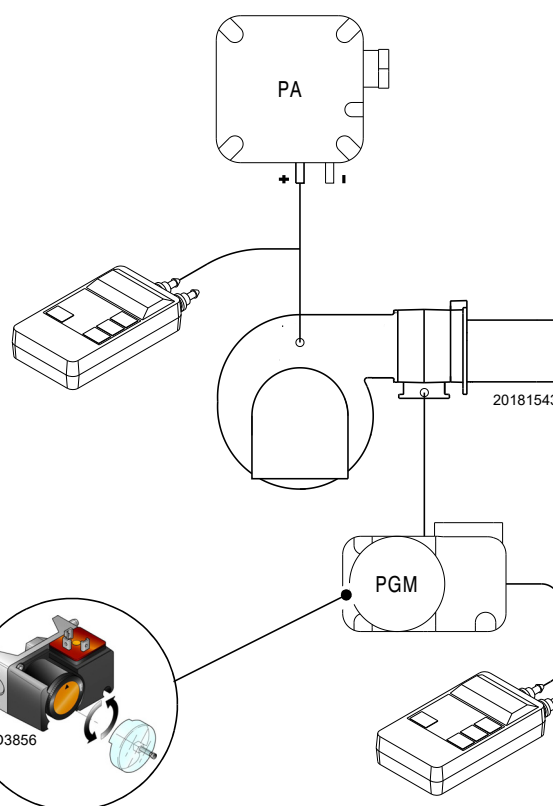

Fig. 32
- Adjust the maximum gas pressure switch (Fig. 32 at page 33) to the end of the scale.
Adjust the maximum gas pressure switch (Fig. 32) after making all other burner adjustments with the maximum gas pressure switch set to the end of the scale.